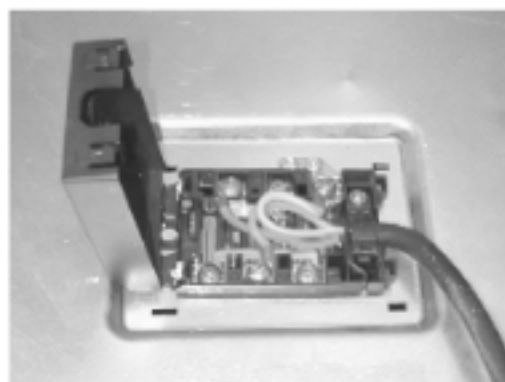

FIG.14
a) Take the cupboard making pressure on the sides clamp as indicate in the figure stamped on the cupboard (see fig. 14).